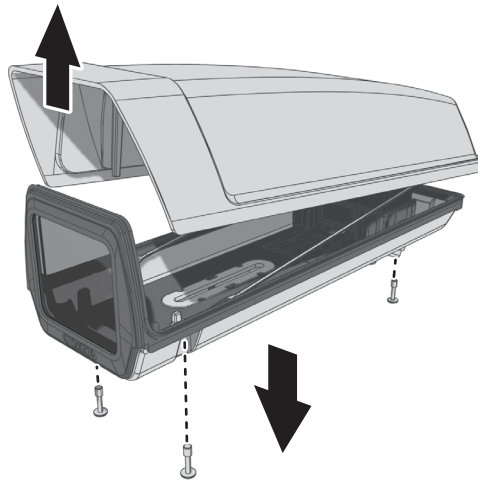

Figure 2. Removing the Lid
1. Use a 5 mm Allen wrench (not supplied) to remove the three 10-24 x 0.75-inch hex head screws (factory installed) that are located on the enclosure base. (Refer to Figure 2.)
2. Lift up and remove the lid (refer to Figure 2). Hang the lid from the front of the enclosure base by the lanyards.